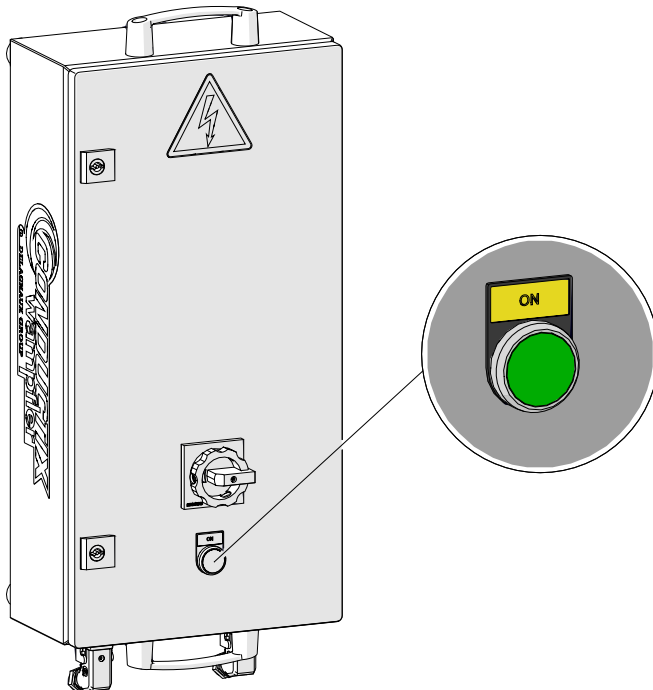

Fig. 29: Voltage Release switch on the power supply
- d. Press the voltage release switch on the power supply unit (see Fig. 29).